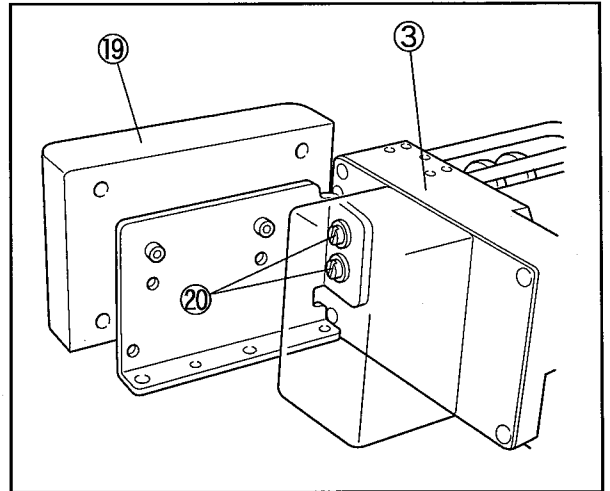

Fig. 2-22
4. To adjust the height of the distangle roller, loosen the screws⑰ and change the angle of the stay⑱.
5. The installation angle of the operating control box⑲ can be adjusted by the screws⑳. (Fig. 2-22)